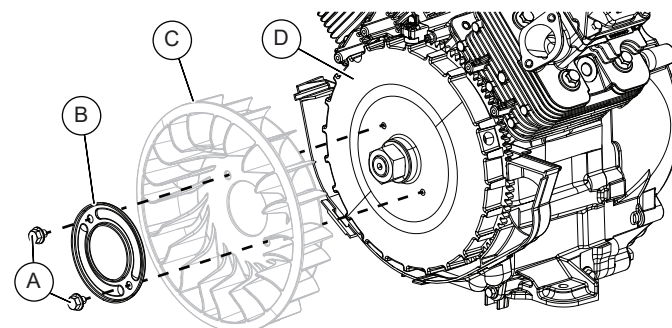

Figure 6-20. Remove Fan
1. See Figure 6-20. Remove two fasteners (A), fan plate (B), fan (C), and from flywheel (D).